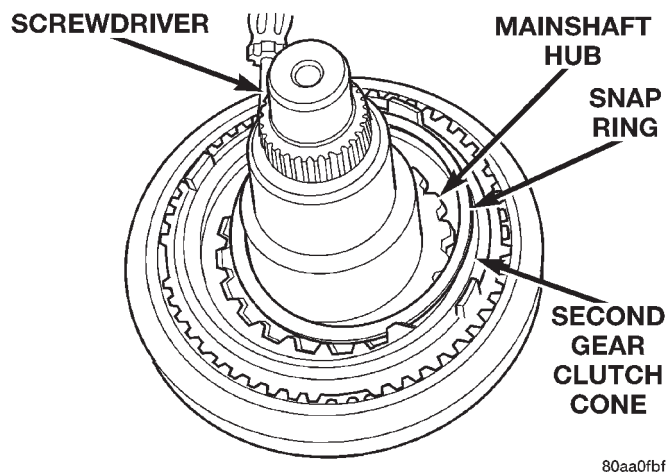

Fig. 102 Installing Second Gear Clutch Cone Snap Ring
(11) Install snap ring that secures second gear clutch cone on mainshaft (Fig. 102). Use narrow blade screwdriver to work snap ring into hub groove as shown. **Be sure snap ring is fully engaged in mainshaft groove before proceeding. If snap ring will not fit in groove, clutch cone is slightly misaligned.**